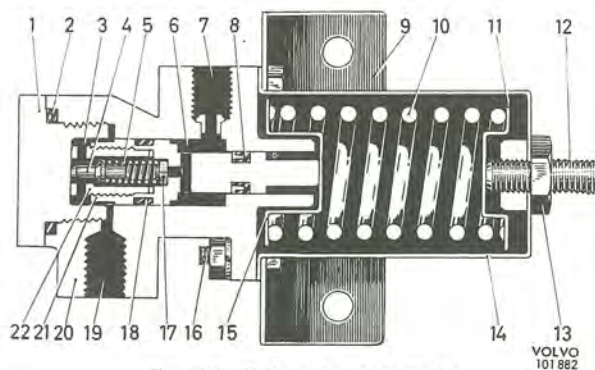
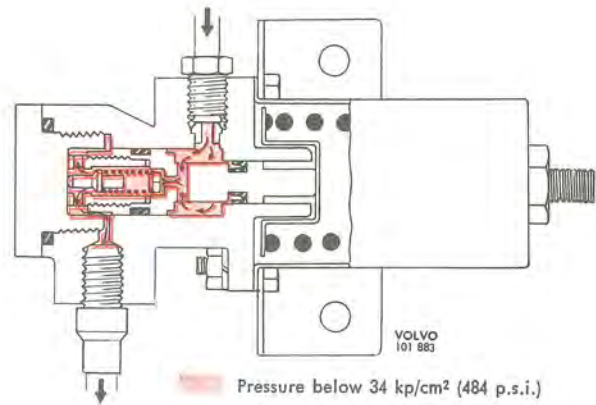

Fig. 5-41. Brake valve, construction
Fig. 5-42. Brake application
A brake valve is connected to each of the rear wheel brake lines, see Fig. 5-6. When the ingoing brake pressure exceeds 34 kp/cm² (484 p.s.i.) a reduction takes place in the valve. The more powerful the pedal pressure, the greater will be the reduction and thereby the larger the difference between the hydraulic pressure in the front wheel and rear wheel cylinders. This results in a suitable distribution of braking force between both pairs of wheels. The construction of the brake valve is shown in Fig. 5-41 and its function is the following.
When the footbrake is applied, the pressure from the master cylinder is transmitted via the connection (7, Fig. 5-41). The pressure then proceeds through the cylinder (6), the counterbore, past the valves (17) and (4) to cylinder (3) and then on through connection (19) to the rear wheel cylinders, see Fig. 5-42. The hydraulic pressure per unit surface is equal on the different parts of the piston (21), but since its pressure surface is larger in cylinder (3) than in cylinder (6), the force developed will move the piston to the right of the figure. However, this is counteracted by the pressure from the springs (10).
in cylinder (6) moves the piston to the left so that the valve rod comes up against its stop and opens the valve this causing the pressure in cylinder (3) to increase. Due to the larger pressure surface in this cylinder, the piston is moved to the right again and the valve closes. In this way, the piston assumes a position of balance and the outgoing pressure from the brake valve will be lower than the ingoing pressure, see Fig. 5-42. The difference in these pressures is determined by the different areas and spring tension.
When the brake pedal is released, the pressure in the cylinder (6) falls. The piston (21) is moved to the right by spring (10). When the pressure on the right-hand side of the valve (4) falls so much that the hydraulic pressure on the left-hand side enables the valves to be actuated, the connection between both the cylinders is opened again. As the pressure falls, spring (10) presses the left piston back to its original position where the valve is held in the open position by mechanical means, see Fig. 5-41. The equalizing valve (17) is fitted with control channels which ensure an even flow of pressure through the valve.